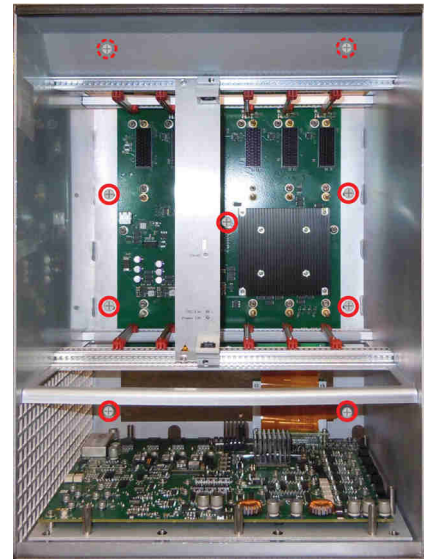
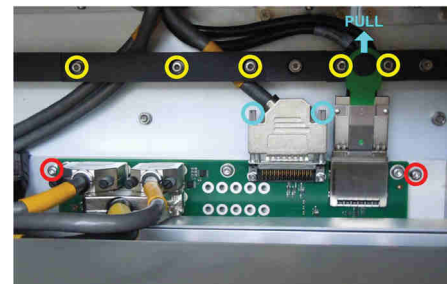

Fig. 7.30 Screws
Fig. 7.31 Support and cables
- 6 Using screwdriver (tools 1/5), loosen 10 captive screws/washers fixing the Crate Assy to the back plate. The location of these is shown with red circles in Fig. 7.30 (p. 135). The two upper screws (dotted red circles) are accessible above the Crate Assy (marked with red circles in Fig. 7.31 (p. 135)).
- 8 Using Allen 3 mm screwdriver (tools 1/ 3), remove 5 screws and washers holding two cable supports - shown with yellow circles in Fig. 7.31 (p. 135). Remove the two cable supports. The Crate Assy can now be moved a little outwards (only kept in place now by two cables).
- 9 Referring to Fig. 7.31 (p. 135), pull the green ring upwards on the rightmost connector to release it from the Motherboard (light blue arrow). On the leftmost connector loosen the two screws (shown with light blue circles) to release it from the Motherboard. If too tight to loosen them with the fingers, use the angled screwdriver (tool 12).
- 12 Mount the connectors removed in step 9 and mount the cable supports removed in step 8 (Fig. 7.31 (p. 135)).